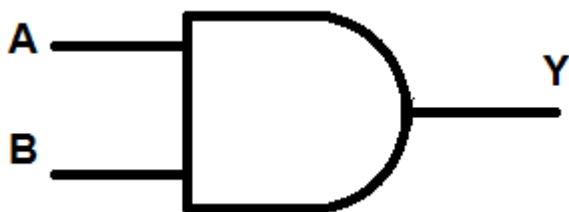

Figure 1a.
**AND** A multi-input circuit in which the output is 1 only if all inputs are 1. The symbolic representation of the AND gate is shown in Fig. 1a.